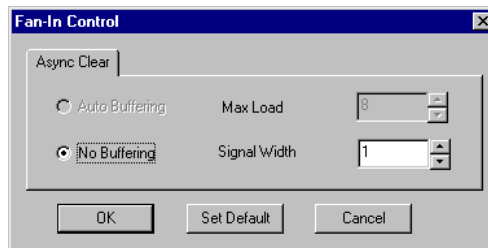

Figure 1-3. Fan-in Control Dialog Box
7. **(Optional) Set Fan-in Control.** If you wish to alter fan-in for control signals, specify the specific macro type and set macro variations first. Click the Fan-In Control button. This displays the Fan-In Control dialog box, shown in Figure 1-3. Set the desired buffering type and value for each signal. Refer to “Fan-in Control Tool” on page 17 for additional information.
4. **(Optional) Set Fan-in Control.** If you wish to alter fan-in for control signals, specify the specific macro type and set macro variations first. Click the Fan-In Control button. This displays the Fan-In Control dialog box, shown in Figure 1-3. Set the desired buffering type and value for each signal. Refer to “Fan-in Control Tool” on page 17 for additional information.
The Fan-in Control dialog box, shown in Figure 1-3, enables you to specify Auto Buffering or No Buffering, Max Load, and Signal Width.